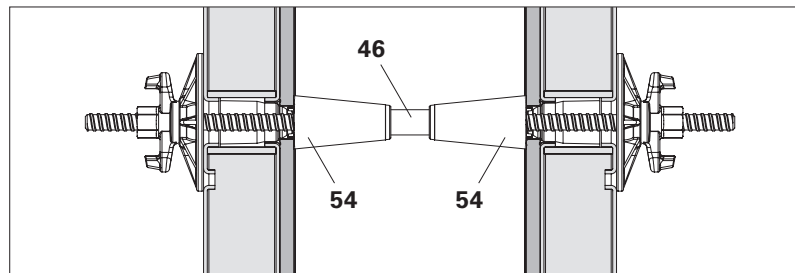

Fig. A7.04
- Variant 2 with Anchor Cone SK DW20 (**54**). (Fig. A7.04)